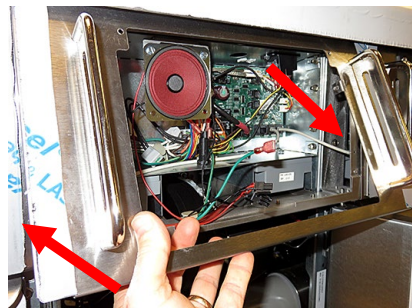

Figure 12
- n. Remove by tilting the bezel up and out from the bottom and lower towards the front of the fryer (see Figure 12).